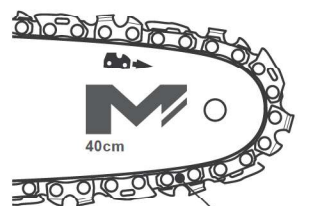

Fig. 9
- > Lift up the tip of the guide bar (4) and keep it there as you adjust the tension.
- > Turn the tension screw (7) until the chain "tie straps" are just touching the bottom edge of the guide bar (4) (Fig. 9).